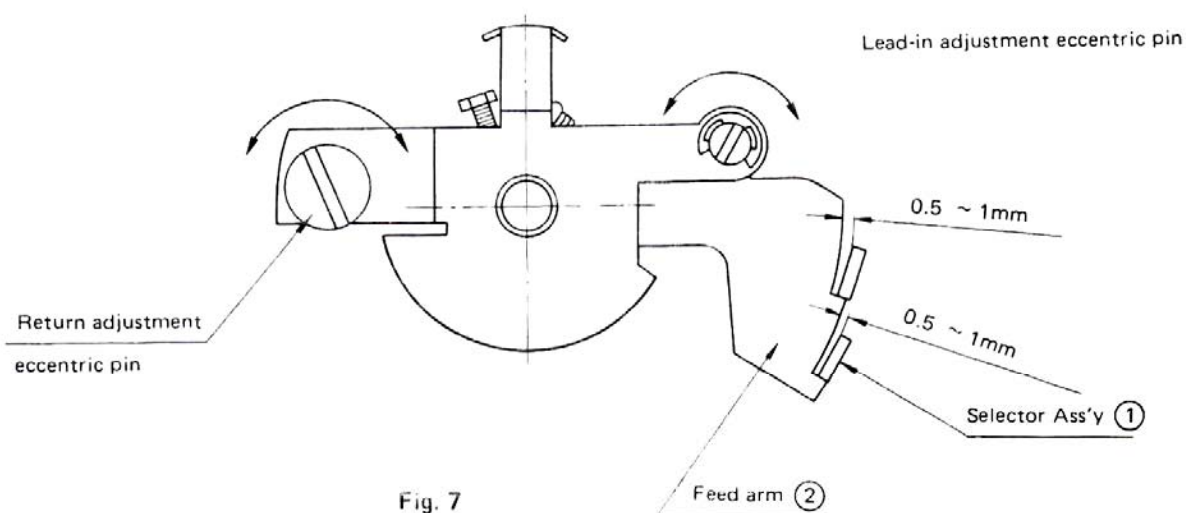

Fig. 7
- (c) After the adjustment as specified under 2-1. (a) and (b) above, manipulate the feed arm eccentric pin as indicated in Fig. 7 below. (The record player is ready for operation at this time.)
Make one half turn of the main gear and while the selector assembly is in such a condition that it can be turned counterclockwise, turn the R solenoid cam in the direction of EP or LP and press one end of selector assembly ① into contact with the cam. Tighten the setscrew to mount the R solenoid assembly in such a position that the other end of selector assembly ① will be in contact with the cam of feed arm ② as shown in Fig. 7 above.